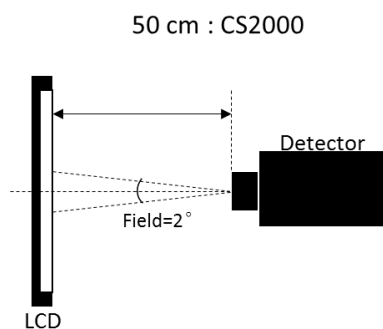

Fig 4.1 Measurement equipment.
- (1) Each chromaticity coordinates (x, y) are measured in CIE1931 color space when full-screen displaying (Red, Green, Blue, White) and light source is defined by HKC Backlight, Measurements shall be made at the center of the panel, and setup of measurement is shown in Fig 4.1.
- (2) The color gamut is defined as the fraction in percent of the area of the triangle bounded by R, G, B coordinates and the area is defined by NTSC 1931 color standard in the CIE color space. Chromaticity coordinates are measured by CS2000 and the standard setup of measurement is shown in Fig 4.1.
- (3) Definition of Transmittance (T%):
(6) Definition of Viewing angle:
As Note (4) the static contrast ratio definition, the viewing angles are defined at the angle that the contrast ratio is larger than 10 at four directions relative to the perpendicular direction of the HKC's module (two vertical angles: up θ_{y+} and down θ_{y-} ; and two horizontal angles: right θ_{x+} and left θ_{x-}). The standard setup of measurement is shown in Fig 4.1 & 4.4